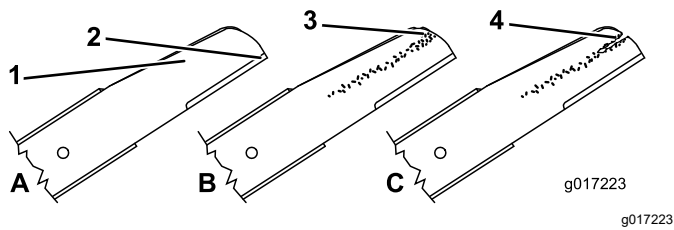

Figure 38
1. Inspect the cutting edges (Figure 38). If the edges are not sharp or have nicks, remove the
- Inspect the blades themselves, especially the curved area (Figure 38). If you notice any damage, wear, or a slot forming in this area, immediately replace it with a new blade.